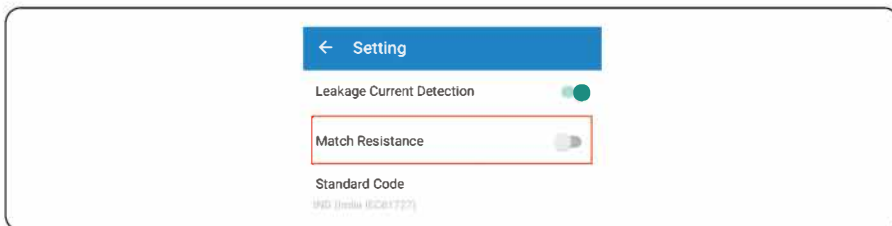

Figure 5.24 Setting Mach Resistances
Step 4 You can set Mach Resistance of the end of multi-RS485 connection chain, as showed in Figure 5.24.